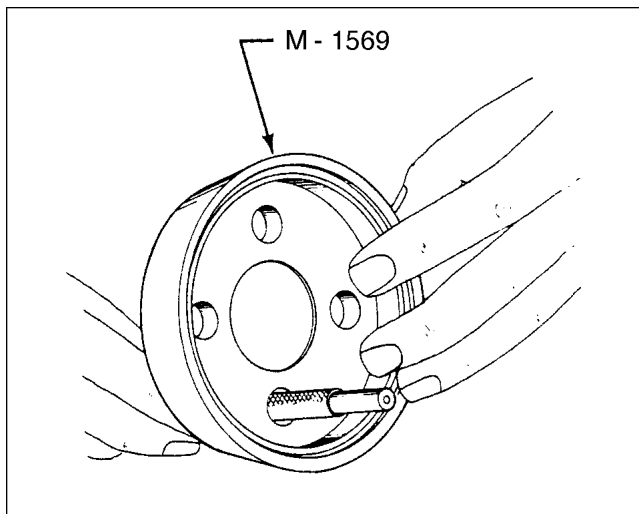

Figure 8-29. Installation in Housing
1. Insert wire through appropriate hole in the M-1569 Plug Wire housing so the shielding is through the hole as shown in Figure 8-29.